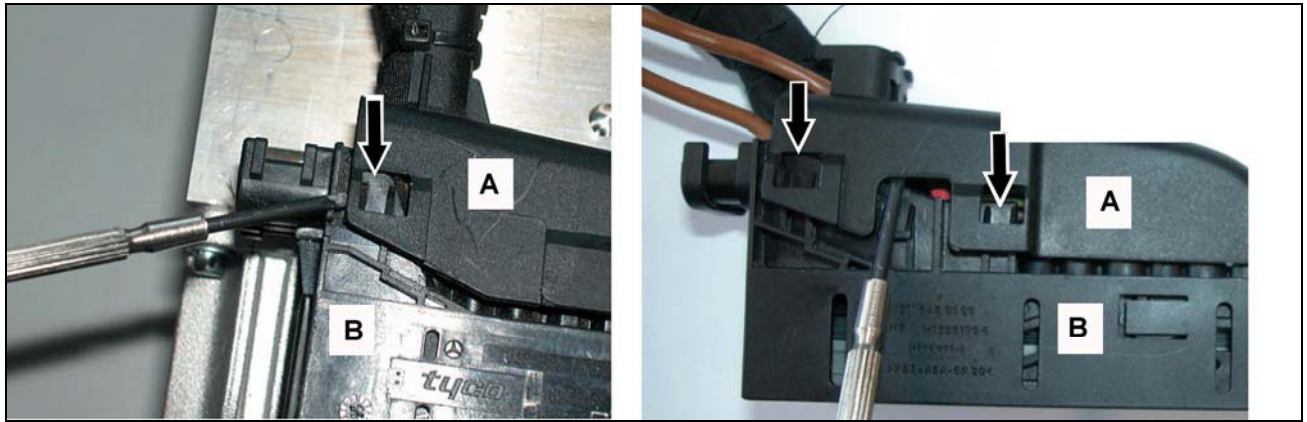

Figure 6
7. Remove SBC connector housing cover (A, Figure 6):
- Using a small screw driver, carefully pry cover (A) away from locking lugs (arrow) until it disengages.
- Remove the cover (A) from the housing (B).
Ensure the locking lugs (arrows, Figure 6) on the harness connector are properly engaged into the harness connector cover.